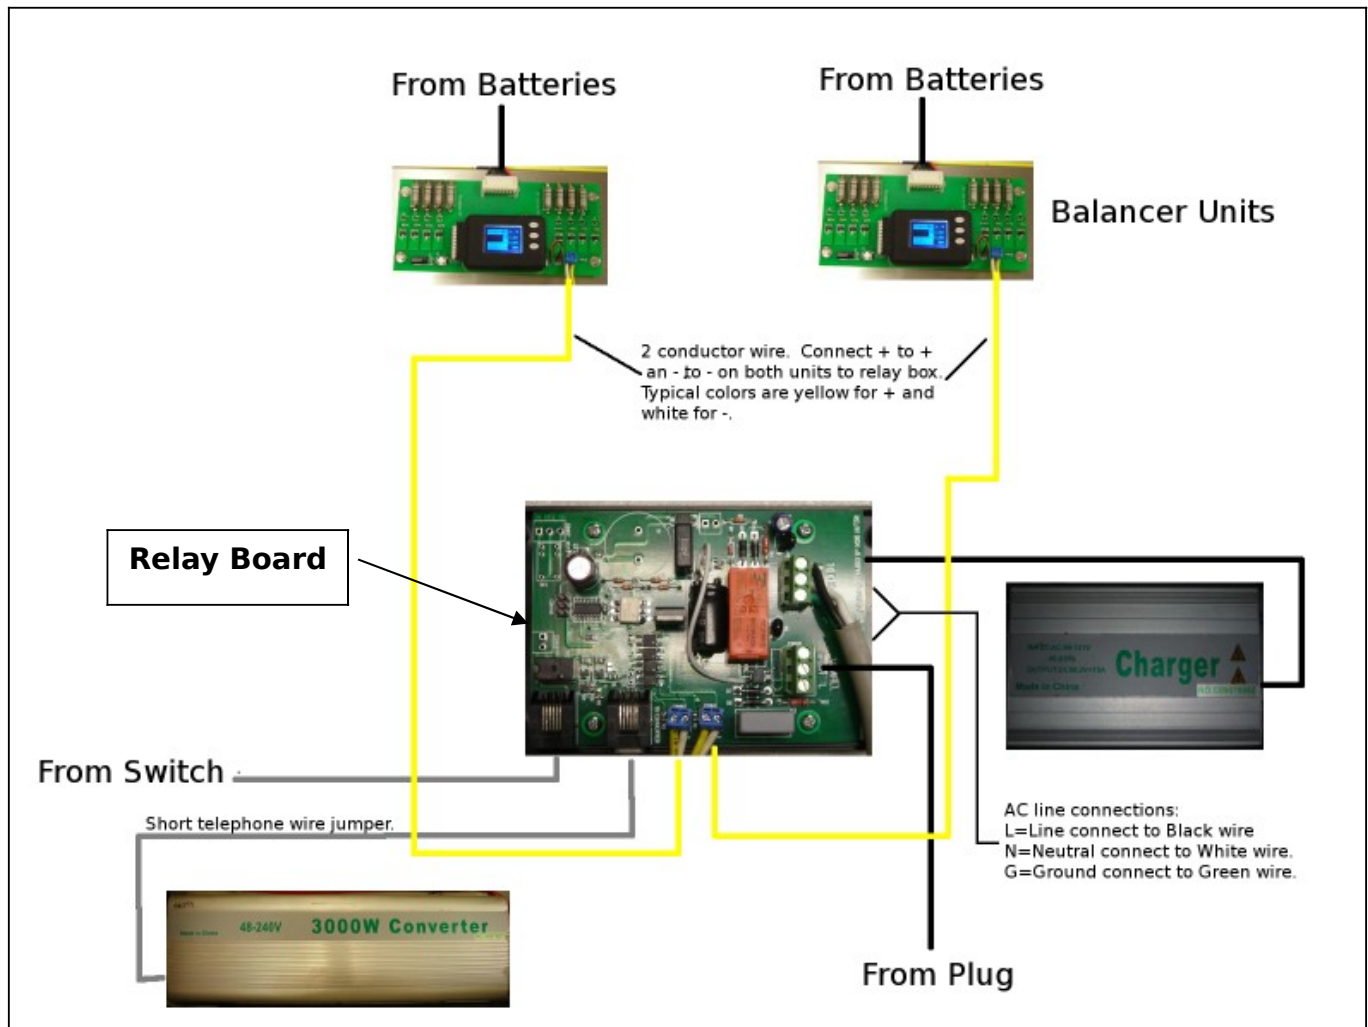

Figure 1
2. Attach yellow/white wire to new balancer, run through the newly placed grommet and out to the relay board. Connect to the blue connector as shown in figure 1 below. Repeat with the second balancer.
3. Run the wires from the charger and converter through grommet and attach the wires from the charger to relay board and plug in wire from converter per figure 1.
5. Attach wires from bumper plug to relay board per figure 1.
6. Plug in wire from switch to the relay board per figure 1.
8. Attach connector from battery pack to each balancer unit per figure 1. (If your battery packs are ThunderSky or MottCell and configured for 4 balancers, you will need to rewire the batteries to be buddy-paired or buy two sets of balancers).